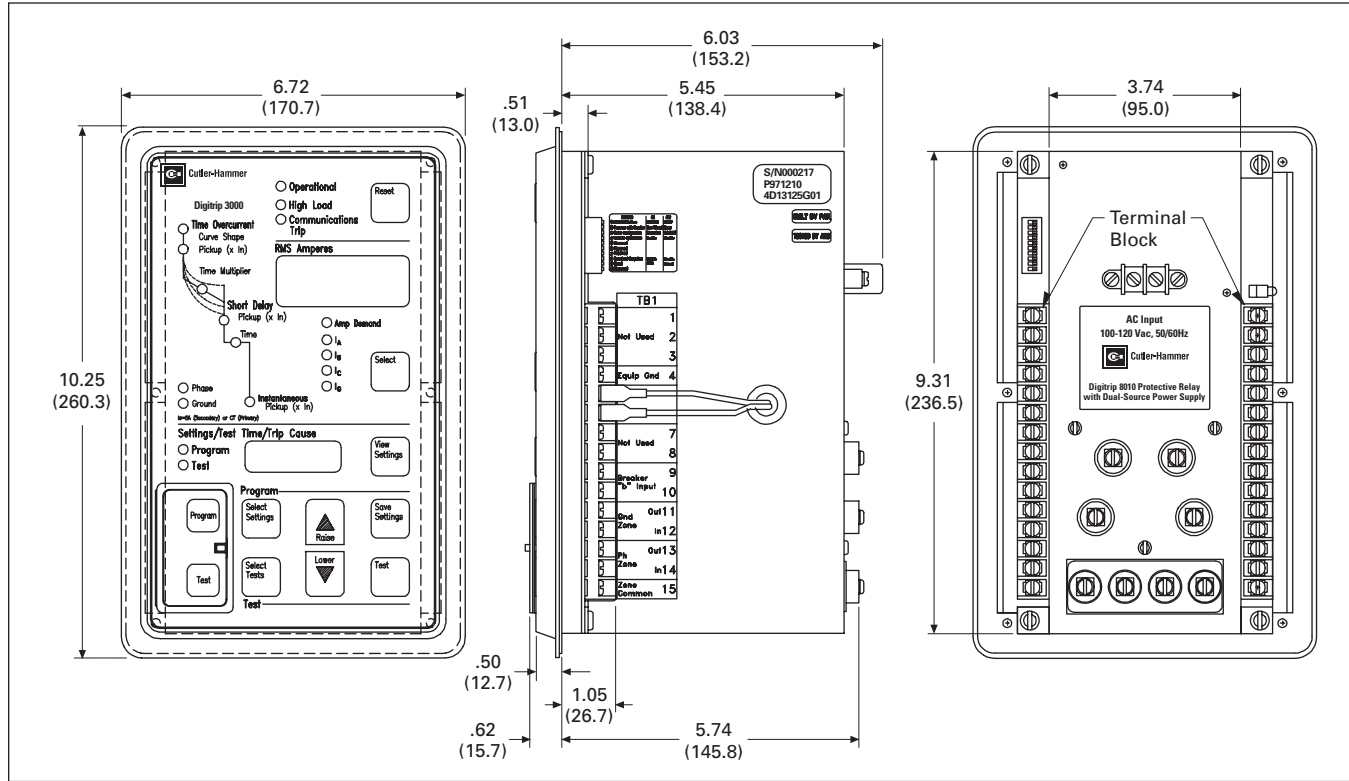

Figure 56-102. Digitrip 3010/3020 — Dimensions in Inches (mm)
- Refer to **Figure 56-102** for Drawout Case Dimensions.